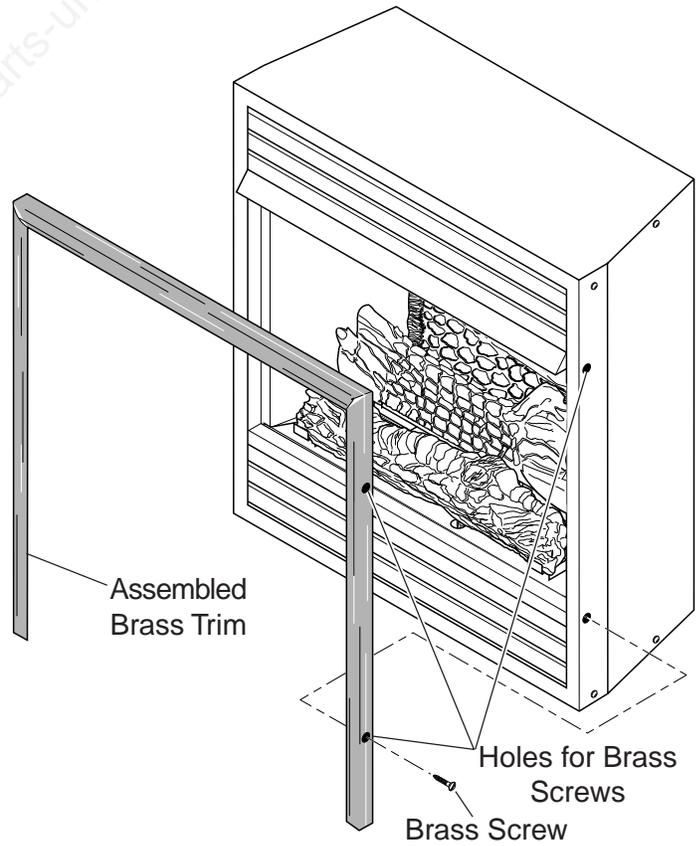

Figure 8 - Attaching Assembled Brass Trim to Heater
NOTE: If you do not attach the trim at the correct corners, use a hammer and screwdriver to tap on the one end of the 90°-angle bracket. This will separate the two pieces of trim (See Figure 8).
5. Place assembled brass trim on front of heater. Using four (4) brass screws, secure brass trim to sides of heater (See Figure 8).